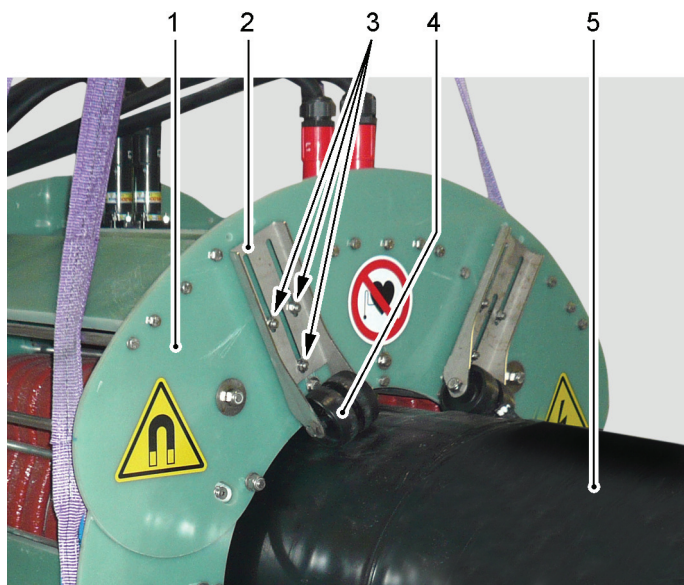

Figure 6.27 - Centring of the clamp coil on the pipe
- 9) Loosen the screws and the nuts (see Figure 6.27/3) fastening the adjustable supports (2) equipped with wheel (4), which allow to realize the centring of the clamp coil (1) on the pipe (5).
- 10) Get the clamp coil (1) centred on the pipe (5), by acting on the adjustable supports (2); then lock the adjustable supports (2) on position, by means of the screws and relevant nuts (3).